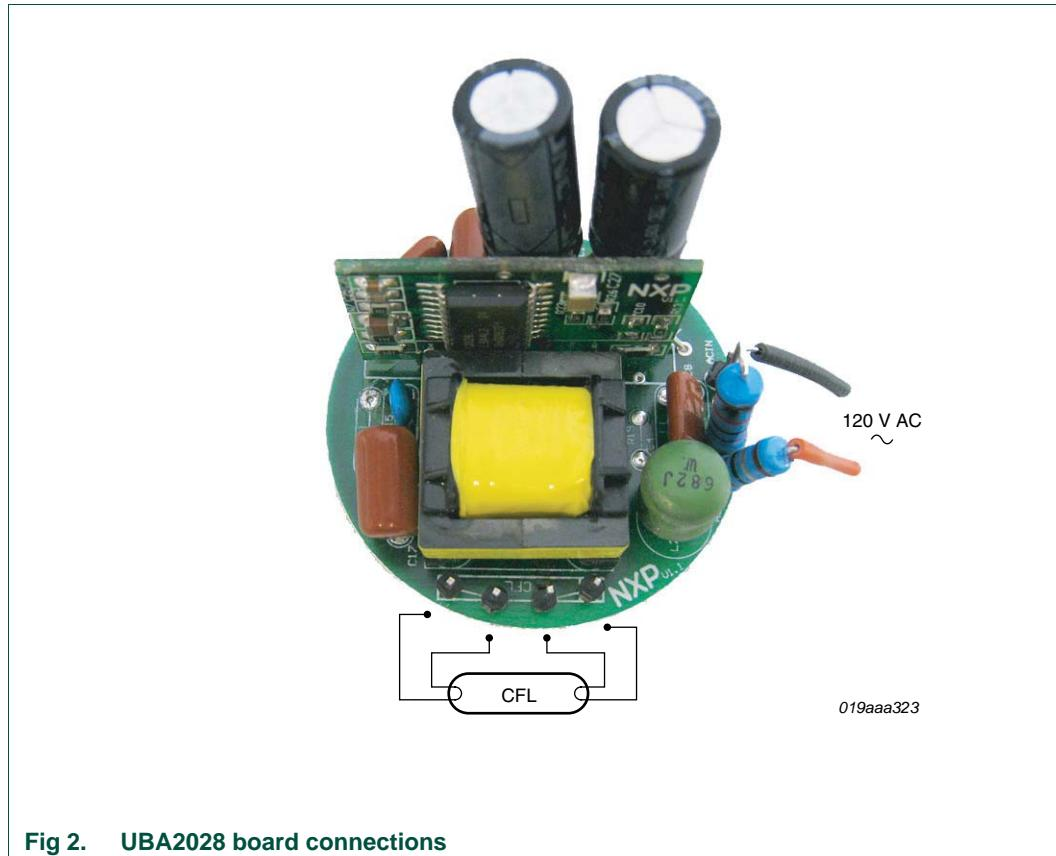

Fig 2. UBA2028 board connections
The 120 V (AC) mains input connection and four CFL connections for the burner are connected as shown below. A fusible resistor of  $2.2\ \Omega$  is placed in series with the 120 V (AC) mains input. See Figure 2: